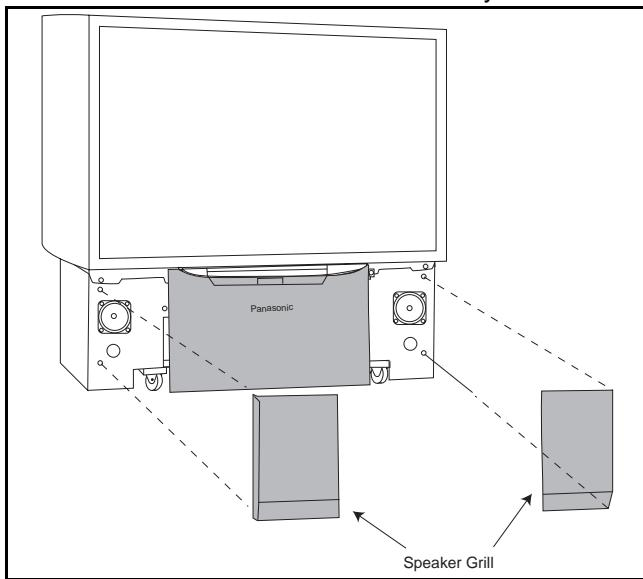

Figure 8. Speaker Grill Removal.
(Figure 8.)
(Figure 8)
1. Remove the Speaker Grill. (see Figure 8)
2. Unplug the cables (2) from the Keyboard assembly. Remove the 2 screws from the left and right sides of Keyboard assembly. Tilt the Keyboard assembly upward and release it from the screen frame assembly.
1. Remove the speakers grill. (see Figure 8)
2. Each speaker set is secured to the cabinet with (4) screws.
1. Remove the Speaker Grill (Figure 8)